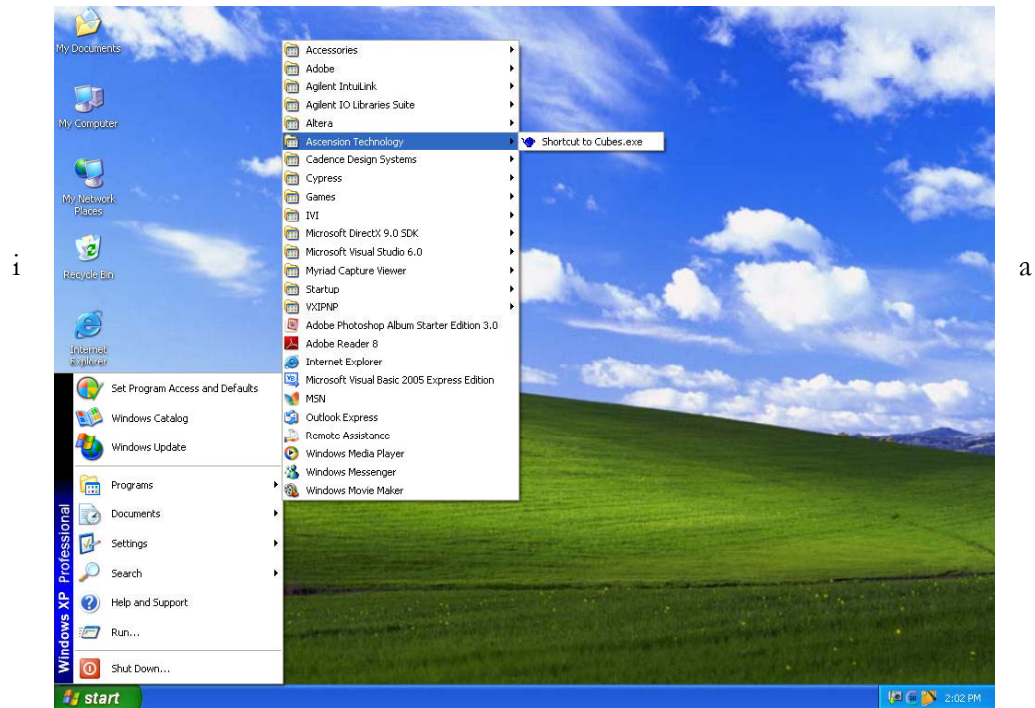

Figure 2-20: Selecting the Cubes program from the Windows start
1. Start the demo utility by selecting *Cubes* from the Ascension Technology program group in the Windows Start menu. (Figure 2-20)